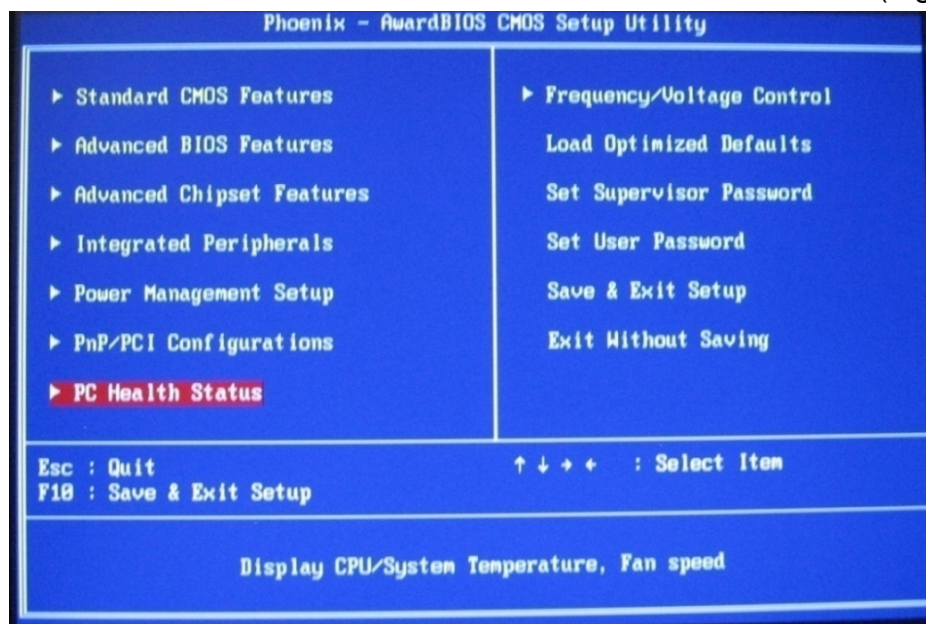

Figure 7-36 Main BIOS Page
26. Press **Escape** to return to the **Main BIOS** page. Scroll down to **.PC Health Status** and Press **Enter**. (Figure 7-36).